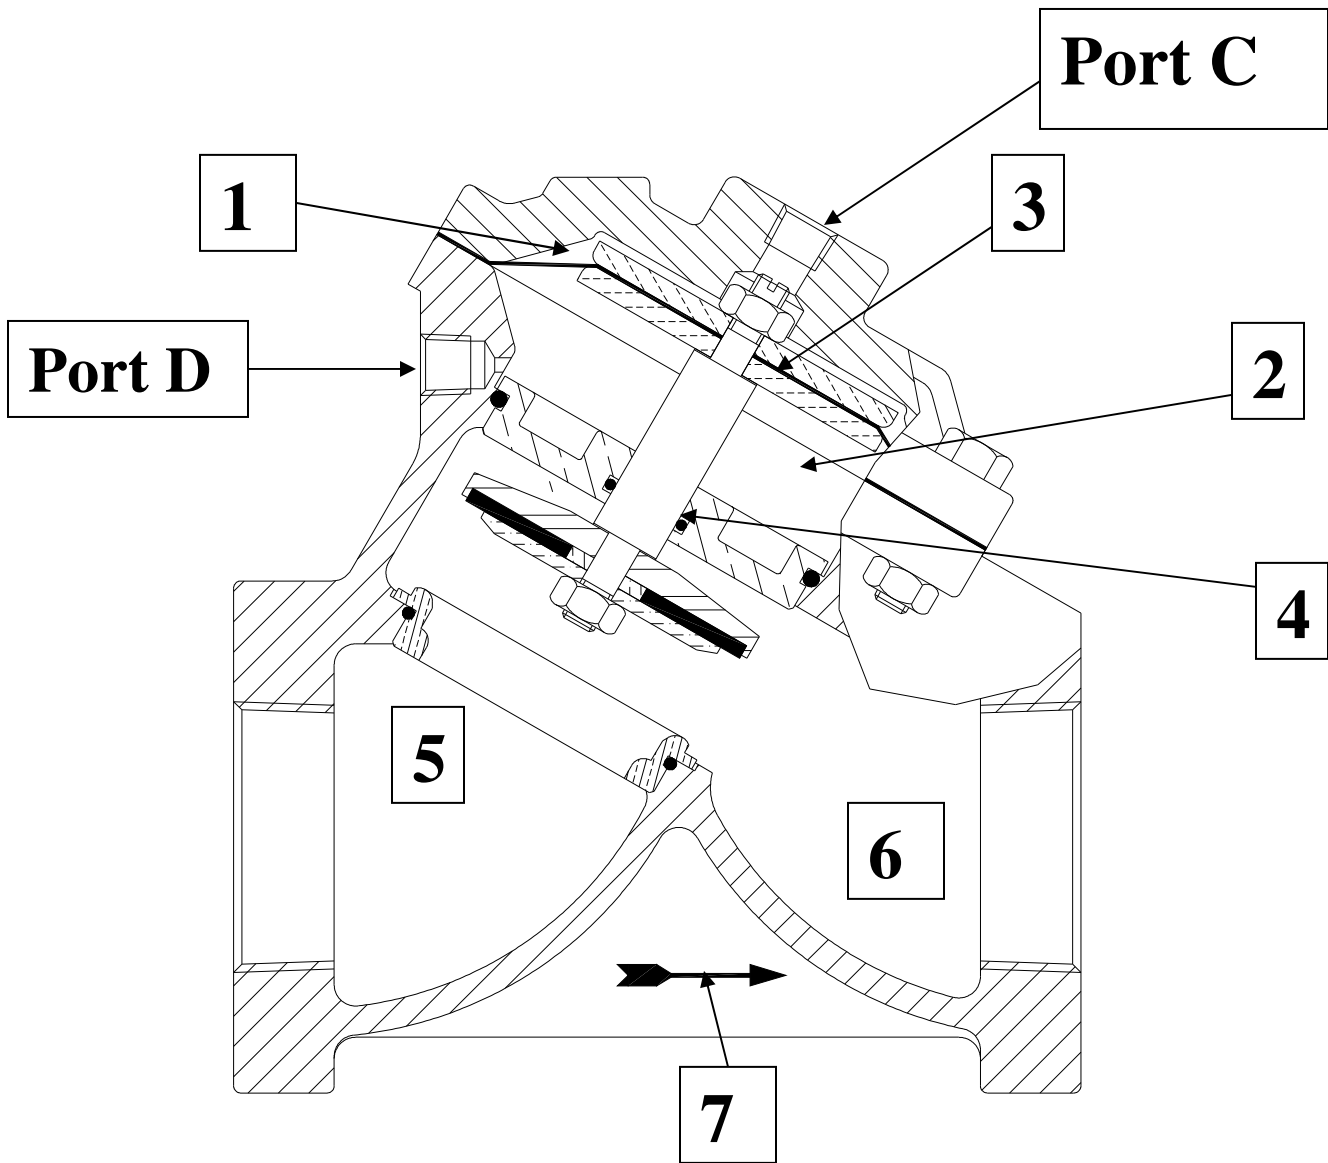

Fig. 1
- Control pressure (equal to or greater than line pressure) should be connected to valve cap on normally open valves (Port C, Fig. 1) and vent port (Port D, Fig. 1) should be left open. **DO NOT** plug vent port.
- Control pressure (equal to or greater than line pressure) should be connected to the (port D, Fig. 1) on normally closed valves. **DO NOT** remove the pipe plug installed on Port C, Fig. 1.